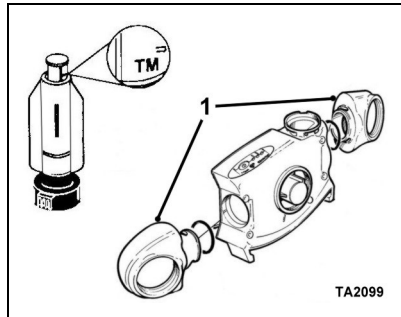

Fig. 1
The basic blower has single filter port. Two additional filters can be fitted by replacing blanking plugs, at each end of the blower body, with filter adaptors (shown as 1 in *Fig. 1*).
- b) Check that the float rises completely above the TM line (see Fig. 1).